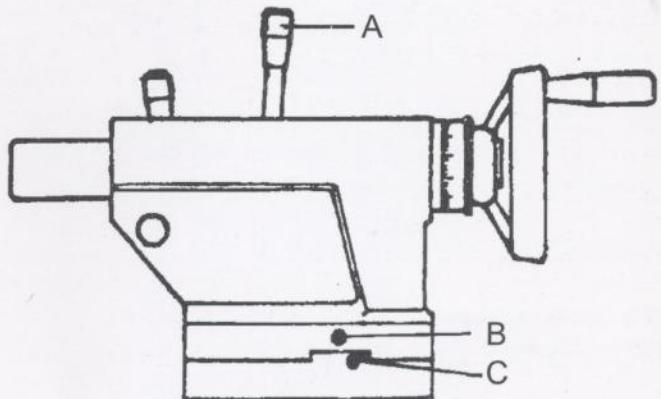

Fig.22
1. Lock tailstock in position by raising locking handle(A, Fig.22)
2. Alternately loosen and tighten front and rear hex socket cap screws(B, Fig.22).
Take up play in the tailstock by tightening two gib screws(C, Fig.22) on either side of the tailstock base. Note: Do not over tighten. Excessive tightening will lead premature wear of the gib and mating parts.